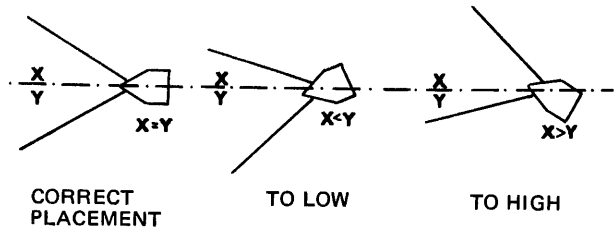

Figure 4-6. Brush Angularity Check
- c. Inspect each set of brushes on brush head for correct angularity (see Figure 4-6).